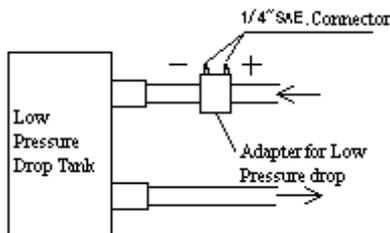

Fig 8 Sketch Map for Low Pressure Drop System
- 4、 Install the switch on the holder vertically, the junction box should stand right above of cooper body; if need horizontal or inversion installation, please decler, Fig8 is 3 ways to Installation
8. To measure the Low Pressure drop or Straight Pipe, need to add orifice plate or balance valve to produce pressure drop in the pipe. A.YITE GROUP could supply adapter for low pressure drop or straight pipe, as Fig 8